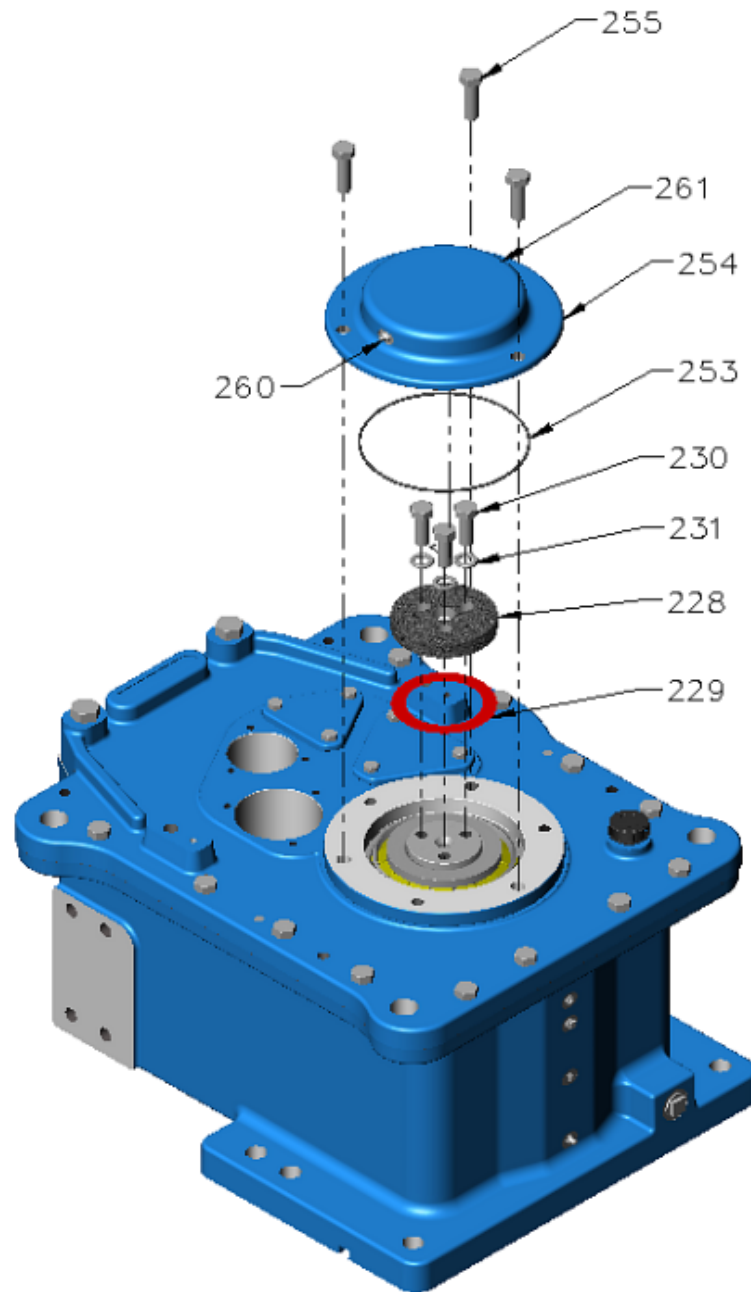

Figure 6 – Output Cap
H. At output shaft, remove the following items (Refer Figure 6):